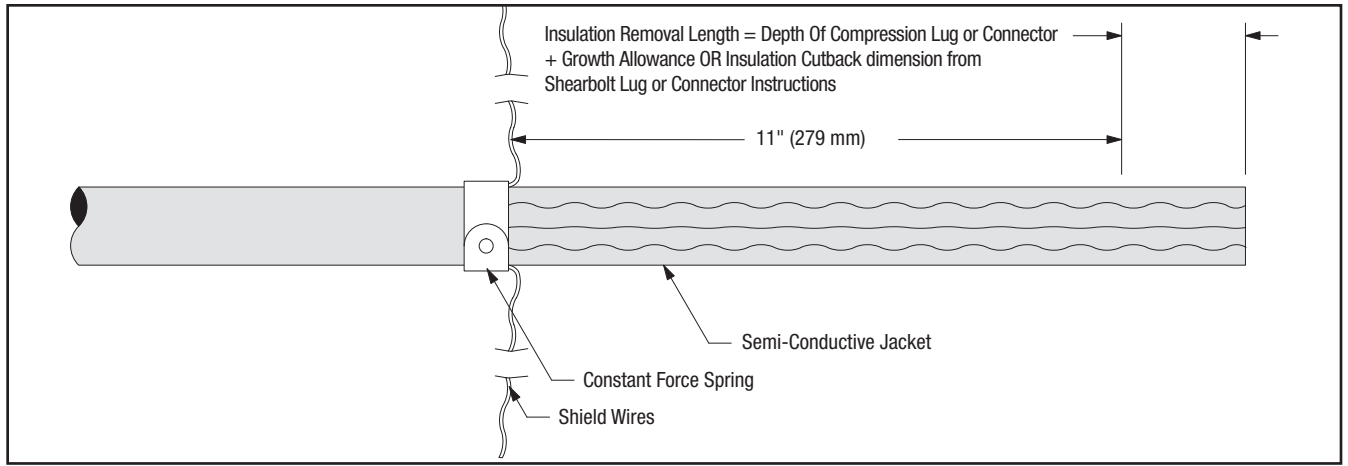

Figure 18
- 12.2 Prepare cable using dimensions shown in Figures 18, 19 and 20. **BE SURE TO ALLOW FOR DEPTH OF TERMINAL LUG.**
- 12.4 Install constant force spring as shown in Figure 18. Pull shield wires through semi-conductive jacket to leading edge of constant force spring (Figure 18).